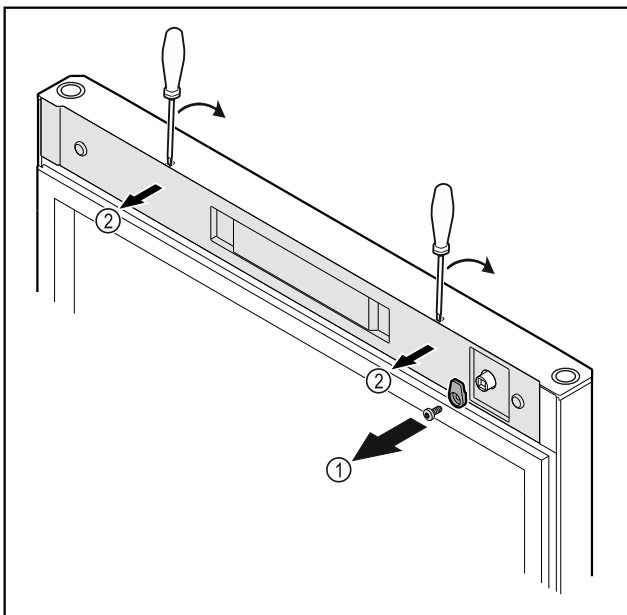

Fig. 6
► Unscrew the door latch Fig. 6 (1).
► Unlatch the cover Fig. 6 (2) with a small screwdriver and remove it.